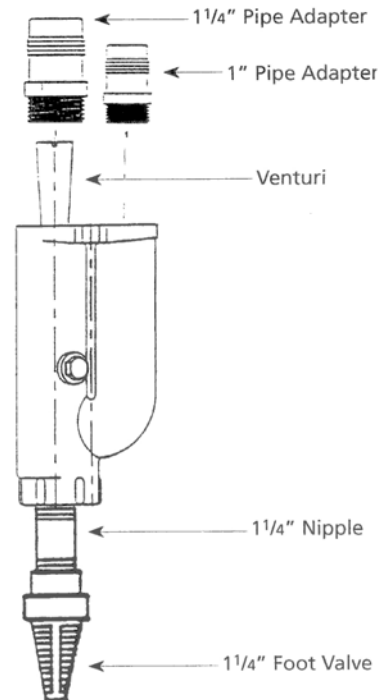

Figure 9
5. Install a 1 1/4" plastic pipe adapter by screwing adaptor into 1 1/4" tapped hole in ejector body (see Figure 9)